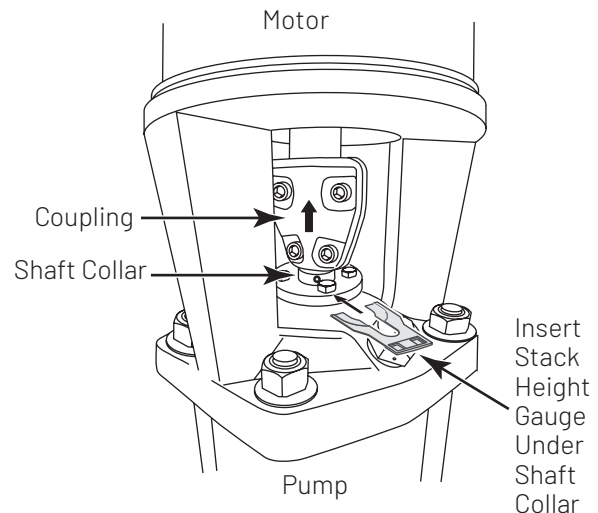

Figure 7 - Using the stack height adjusting tool
5. If your pump has a shaft pin (72), remove it.
12. PVM(X)1-PVM(X)20: Reinstall the shaft pin (72) if your pump has one. Raise the height of the pump shaft by using the shaft pin (72) as a lift point (you may have to put a block under the pin and lift with a flat screwdriver). Insert the stack height adjustment tool (see Figure 7) in below the shaft collar and let the shaft collar rest on it.
PVM(X)33-PVM(X)90: Pick up the shaft (if necessary, temporarily reinstall the coupling to provide a grip to lift by) and insert the stack height adjustment tool (see Figure 7) below the shaft collar. Let the shaft collar rest on it.